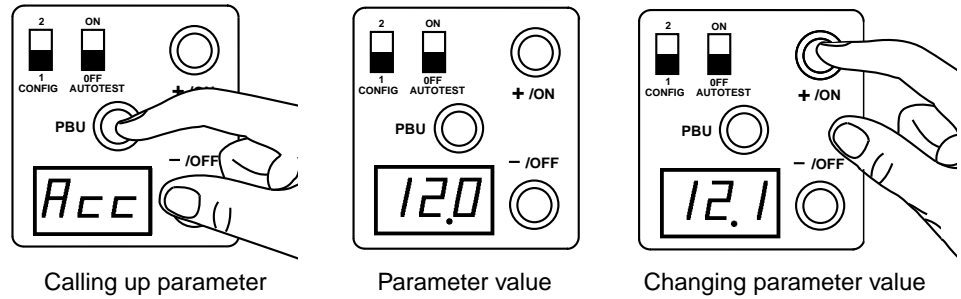
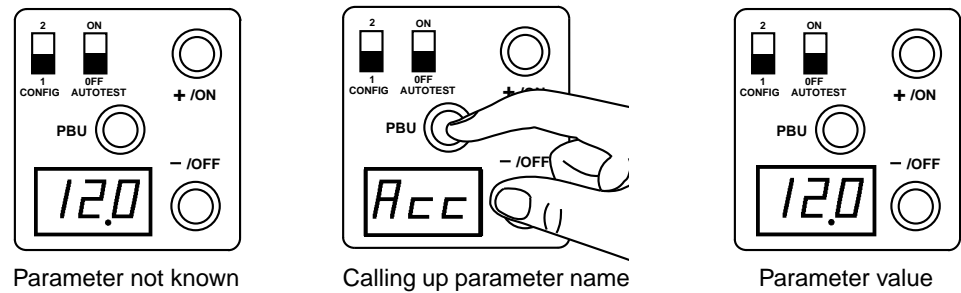

Figure 3-3 Changing a Parameter Value
Figure 3-4 Calling up a Parameter Name
- ❑ PBU: When this push button is pressed and released, the parameter name and then its value is displayed (see Figure 3-3). If the parameter value is already displayed, pressing and releasing this push button causes the parameter name to be displayed (see Figure 3-4). Pressing and holding this push button causes the parameter names to scroll on the display.
Figure 3-3 shows how to change a parameter value.
When a parameter value is displayed, the name of the parameter can be called up again by briefly pressing PBU (see Figure 3-4).